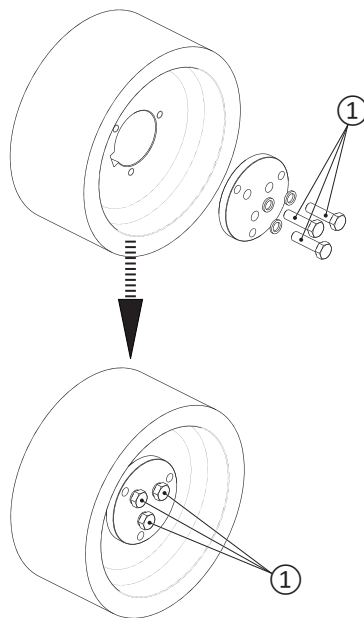

Figure 5
- Position the securing plate, grower and bolts as shown in “Figure 5”.
- Tighten the bolts ① in circular sequence to a torque of 90 Nm.
① SCREWS M12x45